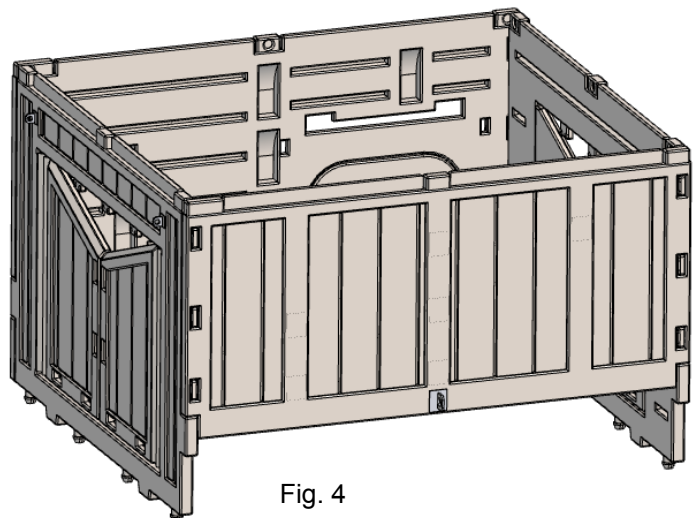

Fig. 4
Step 4: Assemble the two Nest Side Walls to the Back Wall by aligning, and then inserting the tabs on the Nest Side Walls into the slots of the Back Wall. (Fig. 4)